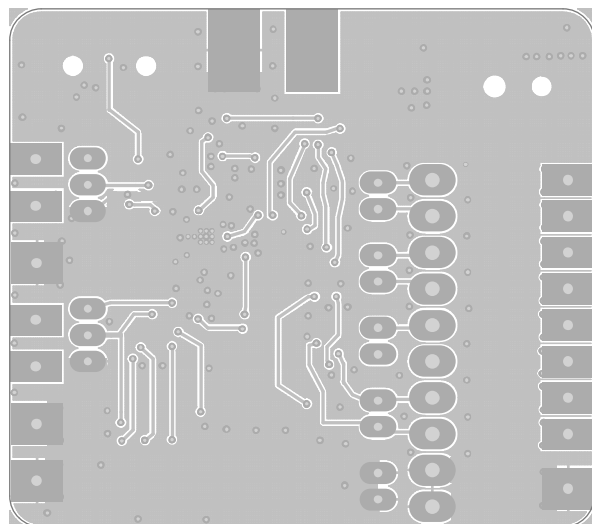
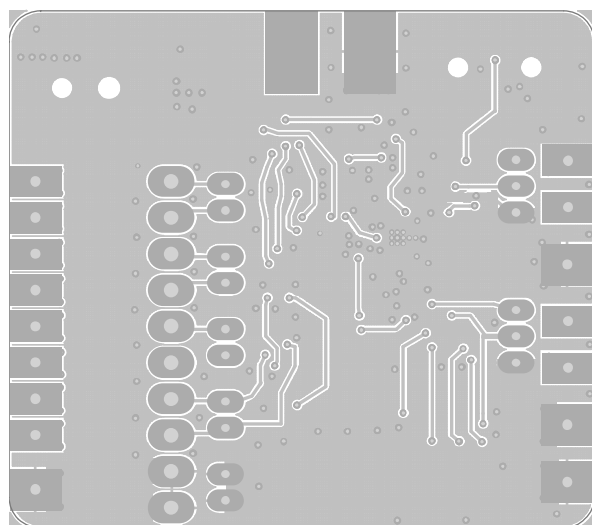

Figure 10. Bottom Layers
Figure 11. Mirrored Bottom Layers
11. Use a solid polygon plane on the other side of the PCB for the area of the vias, which are placed on the thermal pad of the chip (see Figure 10 and Figure 11). This polygon serves as both the EMI shielding ground plane and the heat sink for the SSM2302.